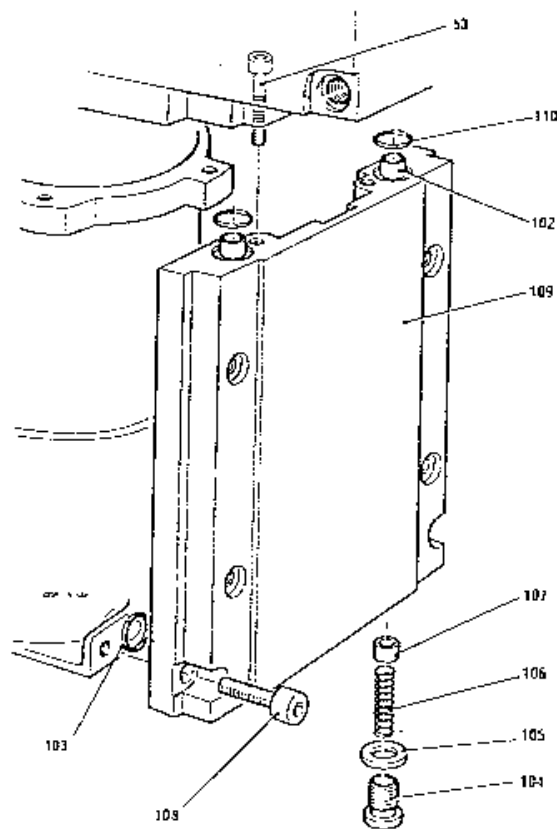

Fig. 3.10 Transfer Manifold Disassembly
3.5.1 Transfer Manifold (Fig. 3.10)